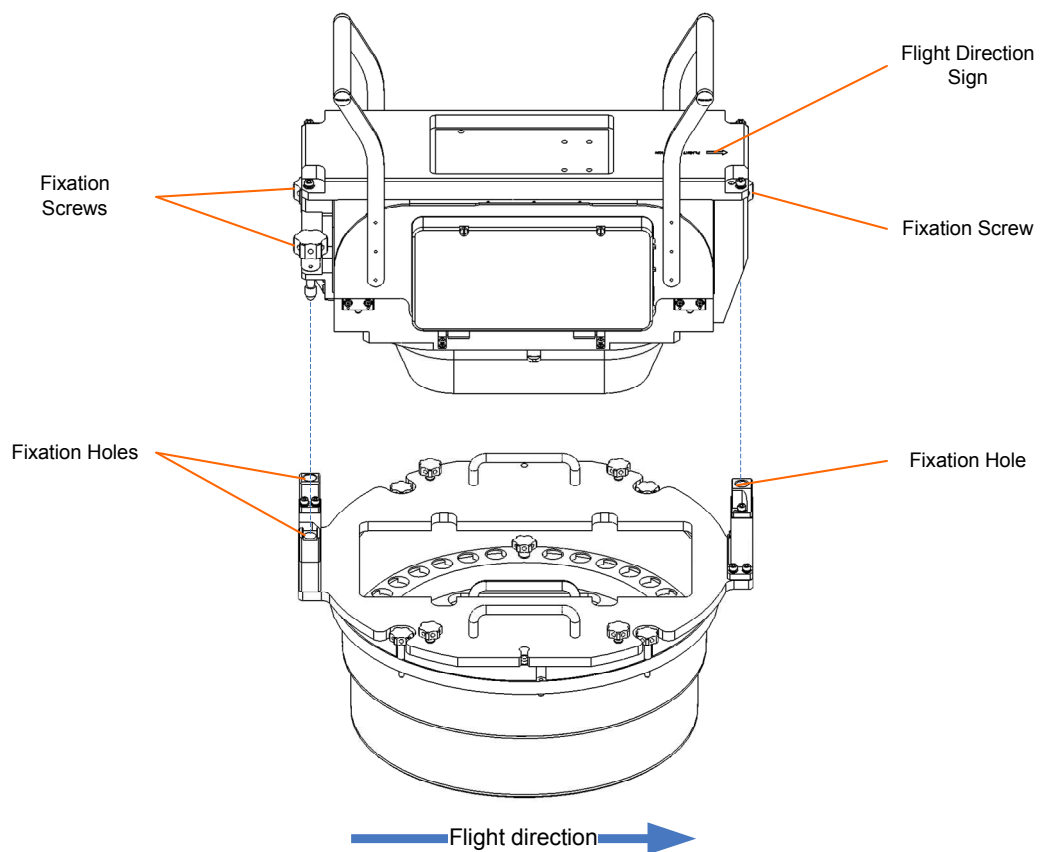

Figure 1.3: Mounting of the scanner on top of the mass-compensator.
- Be sure that the scanner is in its unique position and fasten it with three fixing screws. (Figure 1.3)